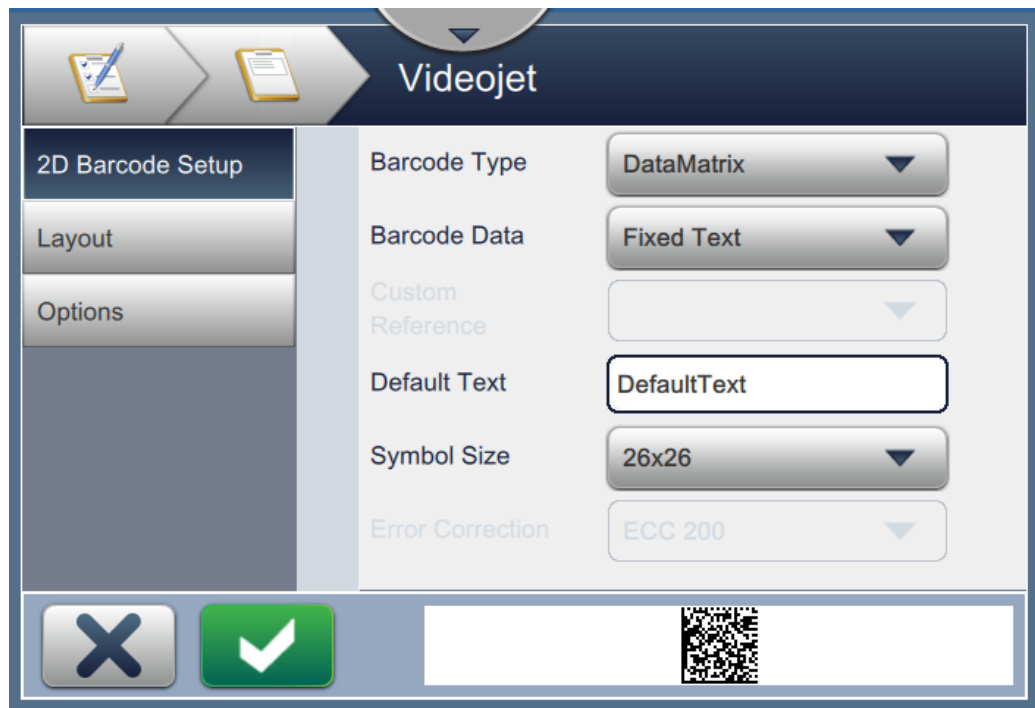

Figure 6-10: 2D Barcode Setup Screen
4. The 2D Barcode Setup screen opens as shown in Figure 6-10.